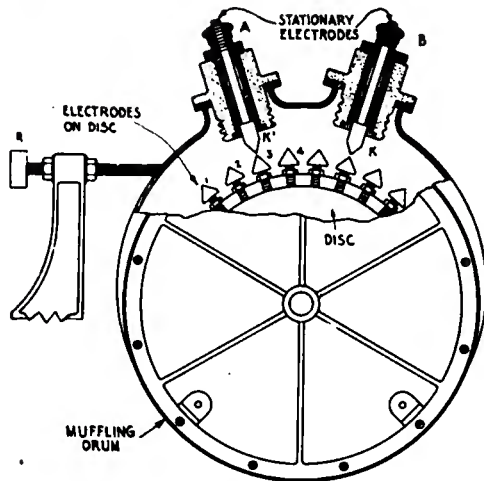

Figure 94
- (1) Figure 94. To show the construction of a modern synchronous rotary spark gap.
In figure 94, a revolving steel disc mounted on the end of the motor generator shaft carries the spark electrodes 1, 2, 3, 4, etc.
The synchronous discharger of figure 94 is adjusted for clear tones by lowering the stationary electrodes K, K-1 until the gap between them and the electrodes on the disc is no more than .005 of an inch in length. Then the position of the stationary electrodes in respect to the disc is changed by turning the rod R to the right or to the left until a uniform note is secured.